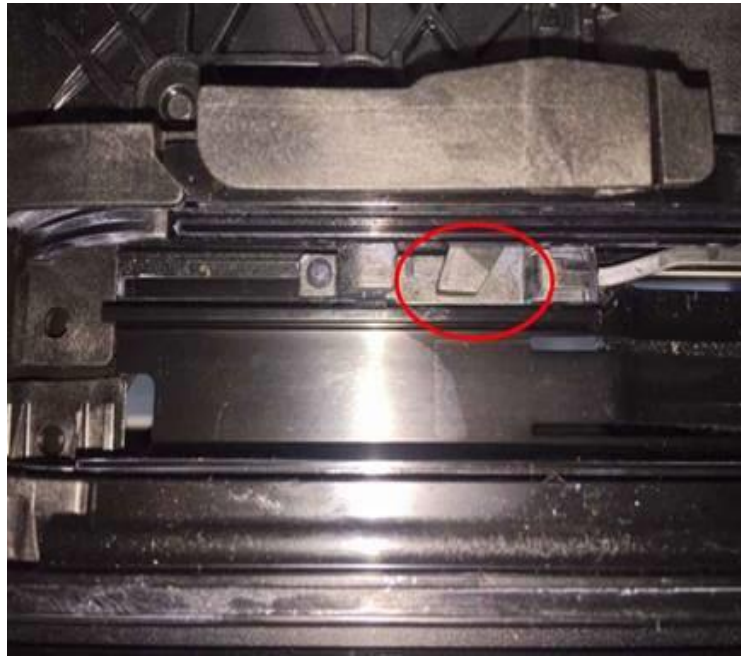

Figure 7. Locked mechanism.
8. The following picture (Figure 7) shows the mechanism locked.